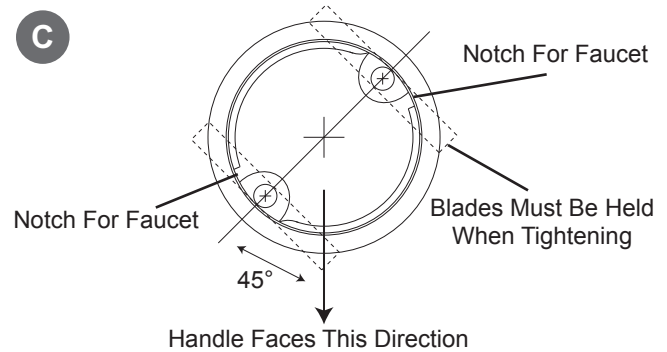

Figure 5
- C. Look down through the base for this step. Before tightening the bolts, determine the correct rotation of the base. The final position of the handle will be 45 degrees off from the bolt heads. Use Figure 5 to help determine the best position for your installation. Through the hole in the base, hold the toggle in position while tightening the bolt. The spring loaded toggle will contact the bottom of the counter top and hold in position. Do not fully tighten. Repeat for second toggle bolt. Check the final position of the base and toggle bolts. Tighten the two bolts evenly. **DO NOT OVERTIGHTEN.** Tighten only far enough to prevent the base from rotating when the faucet is rotated in place.